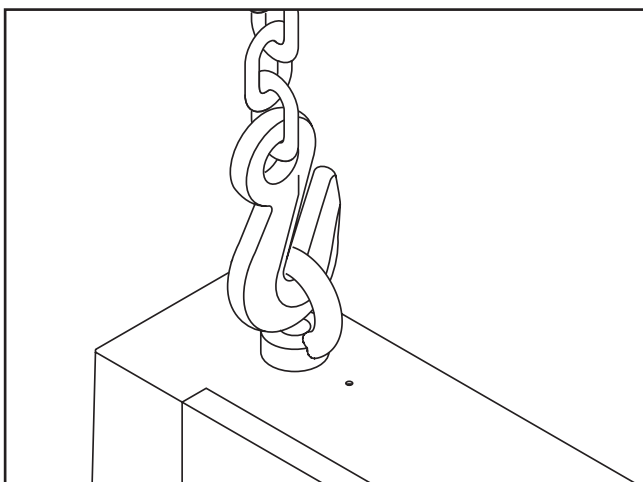

Figure 8. Lifting the bandsaw.
3. Install the eye bolt shown in **Figure 8** if it is not already installed (make sure it is threaded all the way in), then place the lifting hook through the eye bolt and lift the bandsaw off of the pallet with a forklift.